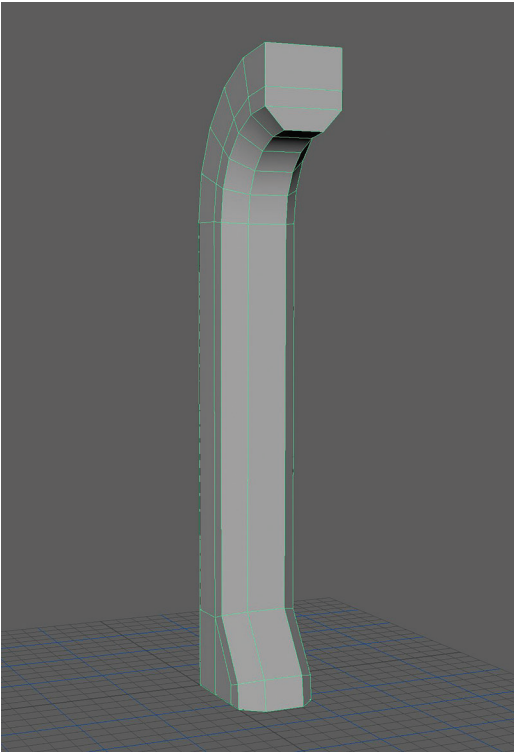

FIGURE 1.53 Creating a tapered wall section.
Step 6: Wall frame. Copy the arch wall we created and move its pivot to the origin. Change its Scale X to 0.25. Grab the front faces and press Ctrl + E. Change the Local Translate Z of the extrude to 16. Extrude the same amount again, but this time, scale the faces in on the X axis to create a little taper. Use scale or snapping to flatten the top front faces (Figure 1.53).